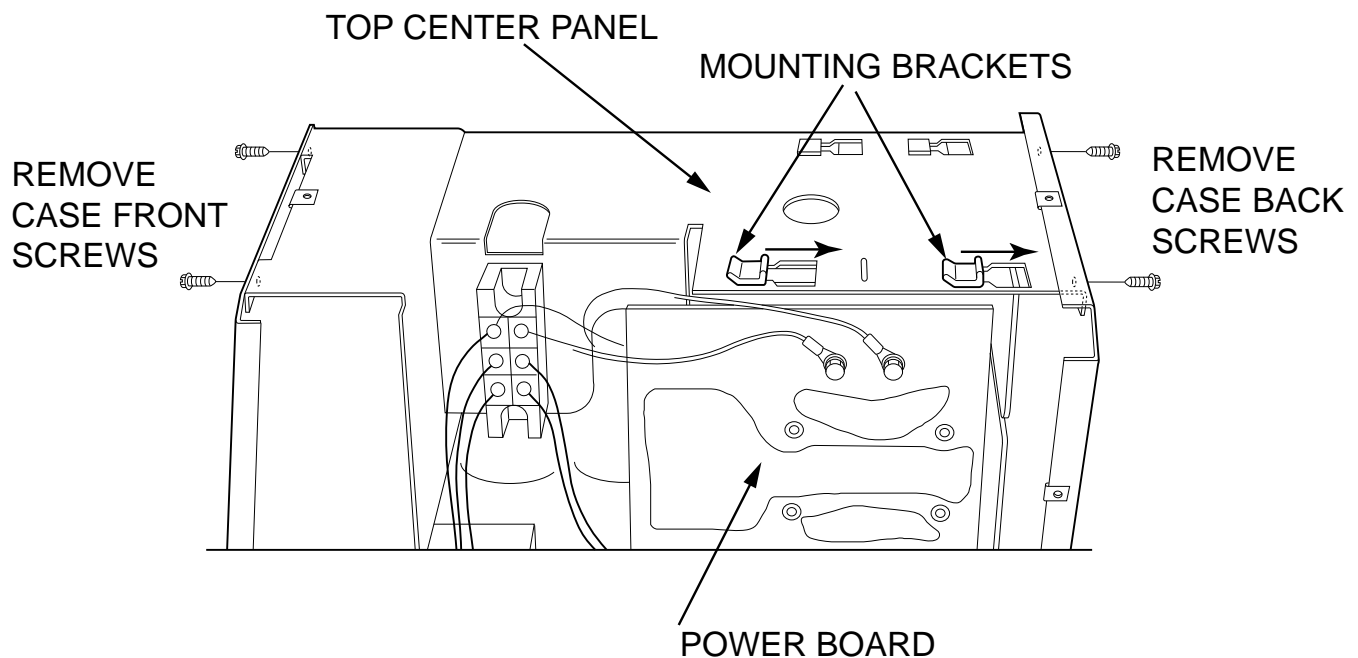

Figure F.15 Heatsink/Power Board Removal
4. Using the 5/16" nut-driver remove the two screws from the top rear of the case back. See Figure F.15.
5. Using the 5/16" nut-driver remove the two screws from the top front of the case front panel. See Figure F.15.
6. Using the slot head screwdriver carefully disengage the heatsink/power board mounting bracket from the top center panel. This can be accomplished by sliding the bracket assembly towards the rear of the machine while at the same time gently lifting up on the top center panel. See Figure F.15.
13. Using the 5/16" nut-driver replace the two screws at the top rear of the case back. See Figure F.15.
14. Using the 5/16" nut-driver replace the two screws at the top front of the case front panel. See Figure F.15.
9. With the 5/16" nut-driver remove the two screws from the top rear case back. See **Figure F.15**.